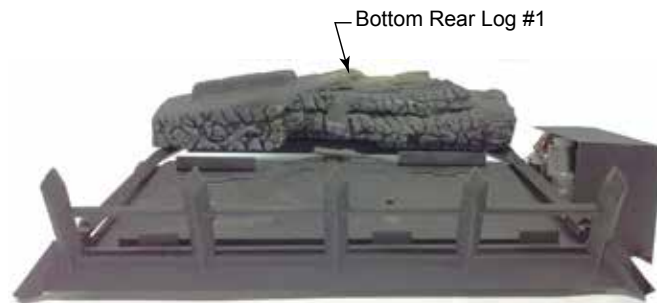

Figure 27
1. Place bottom log (#1) on two (2) pins on rear of grate assembly and push towards rear as far as possible. *Figure 27*